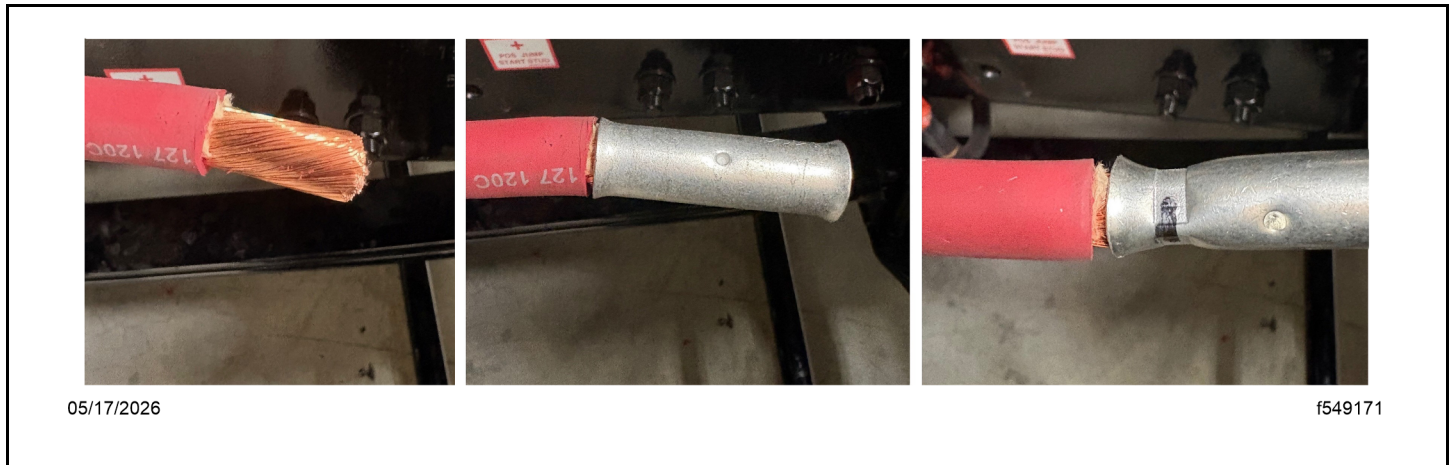

Fig 146, Installing and Crimping the Terminal
24. Crimp the butt connector terminal (PHM 8 2960) on the cable routed to the cab. See Fig. Fig. 146.